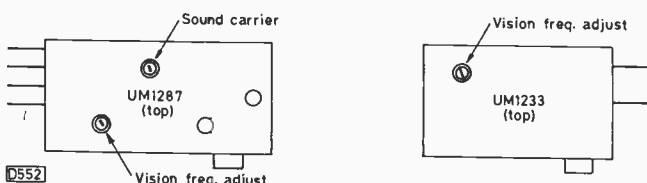

Fig. 11: Modulator tuning – core locations.
(5) Adjust TC1 on the interface board to get a colour picture. If suitable measuring equipment is available, set TC1 for 8.867238MHz at pin 12 of IC3.
(6) Adjust the core of the chroma filter coil L1 for minimum interference and no smearing of letters. If a scope is available tune L1 for the maximum colour burst output amplitude at pin 6 of the TEA2000 chip (IC3). This should correspond with minimum patterning on the teletext display. If colour stability is poor, change C17 (see comments last month).
(7) Adjust the modulator's u.h.f. output by tuning the core (see Fig. 11) to a spare channel (avoid the VCR's output channel). Connect the splitter/combiner (see Fig. 3) in series with the VCR's output. The VCR's output should appear on one channel, the teletext signal on another, without interference.
(8) Inject a sound input. Adjust the modulator's sound core (UM1287 only) for the best signal.